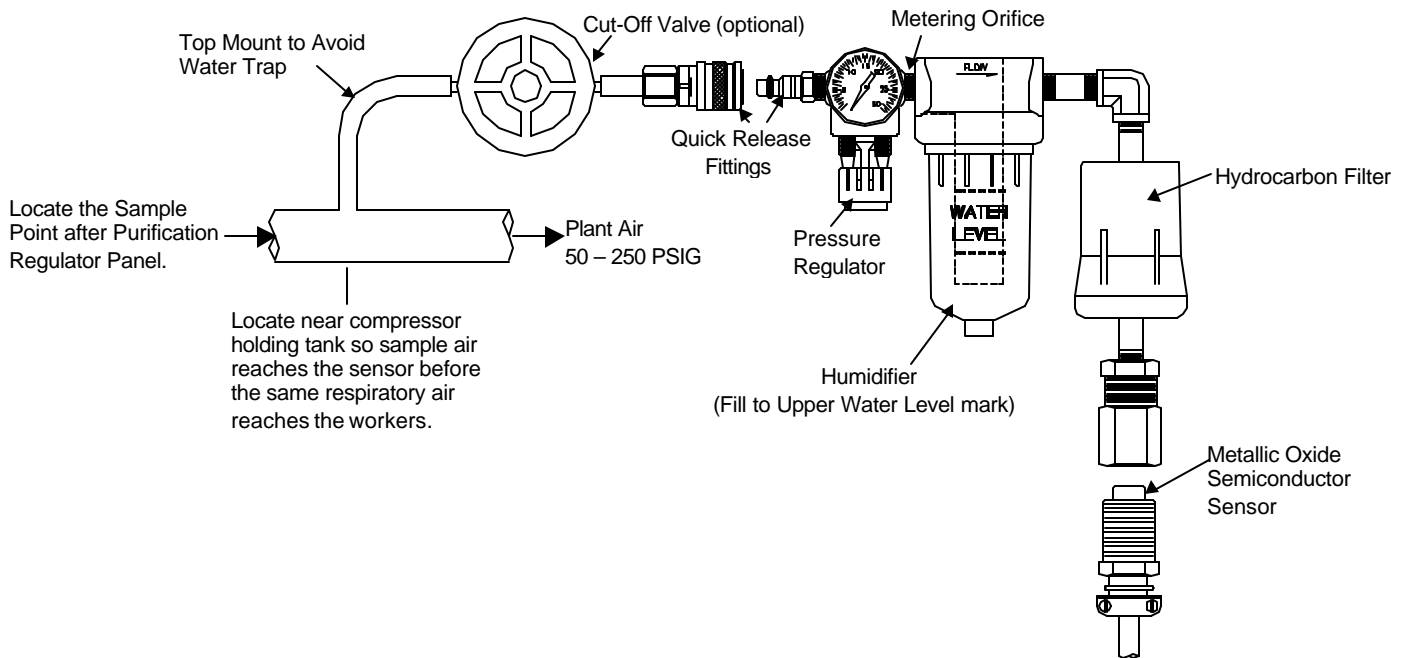

Figure 6: Connecting to Compressed Air Line
5. Connect regulator/humidifier and hydrocarbon filter (if supplied) to the sensor head assembly. Attach this assembly to a 50 – 250 psi compressed air line (see Figure 6).